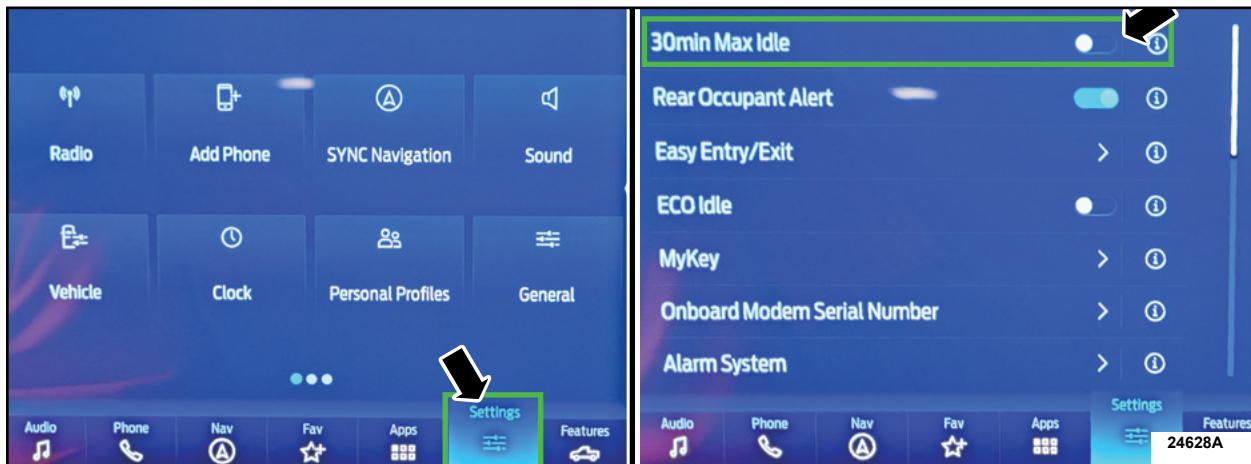

FIGURE 13
- From the center display press the vehicle settings button and turn on the 30min Max Idle option setting. See Figure 13.